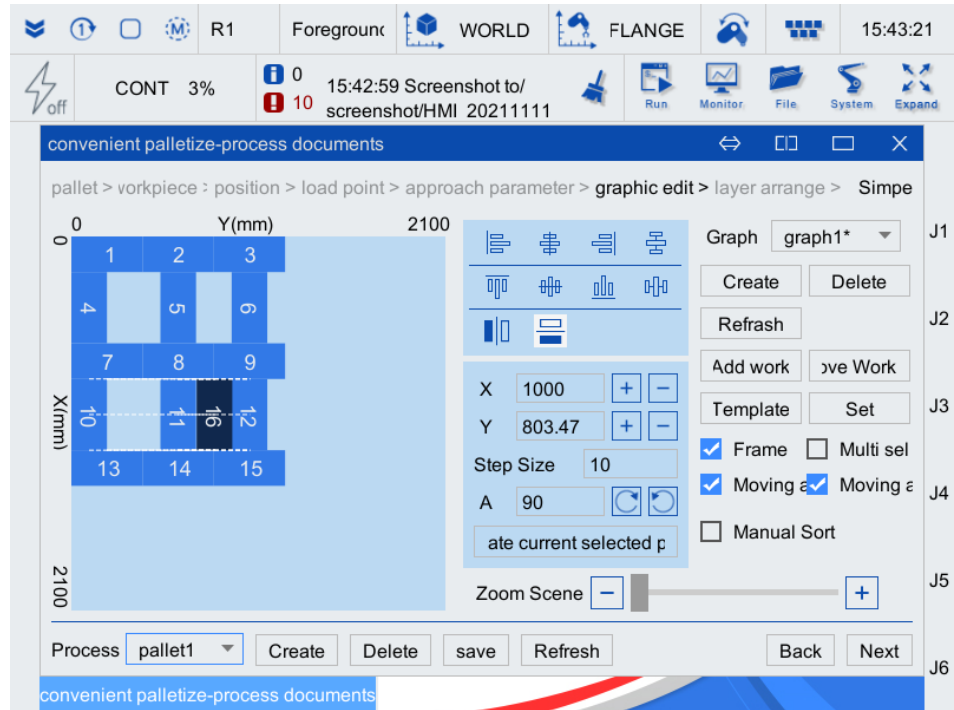

Figure 3-26 Effect picture after setting
Step9. Click to select workpiece 16 and click to rotate workpiece 16 90 degrees clockwise. If there is overlap, move the workpiece so that it does not overlap. As shown in Figure 3-26.